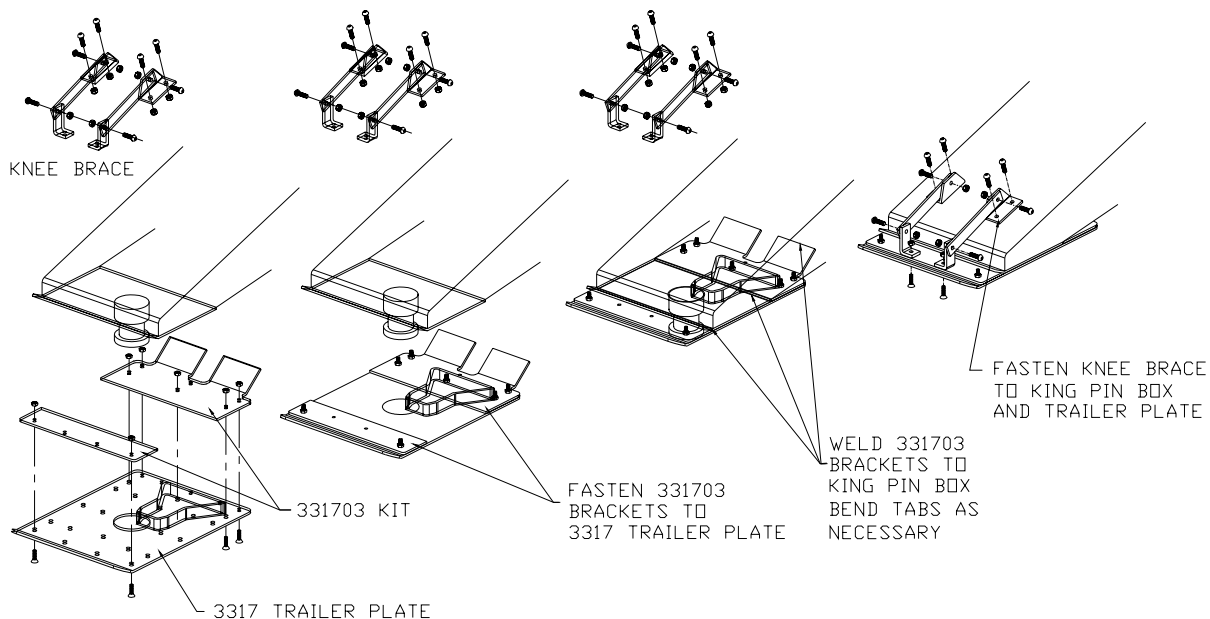

Figure 6
FOR KING PIN BOXES THAT ARE WIDER AND SHORTER: (Figure 6)
1. Place the Trailer Plate {J2} over the King Pin, with the guide wedge towards the rear of the trailer (wedge facing down), and measure the distance from the front and rear of the King Pin Box to the respective edges of the Trailer Plate {J2} (to the bend of the Trailer Plate {J2} in the front). Referring to Figure 6, fashion two plates, 3/16" to 1/4" thick, that will cover the holes of the Trailer Plate {J2} showing in front and rear of the King Pin Box.